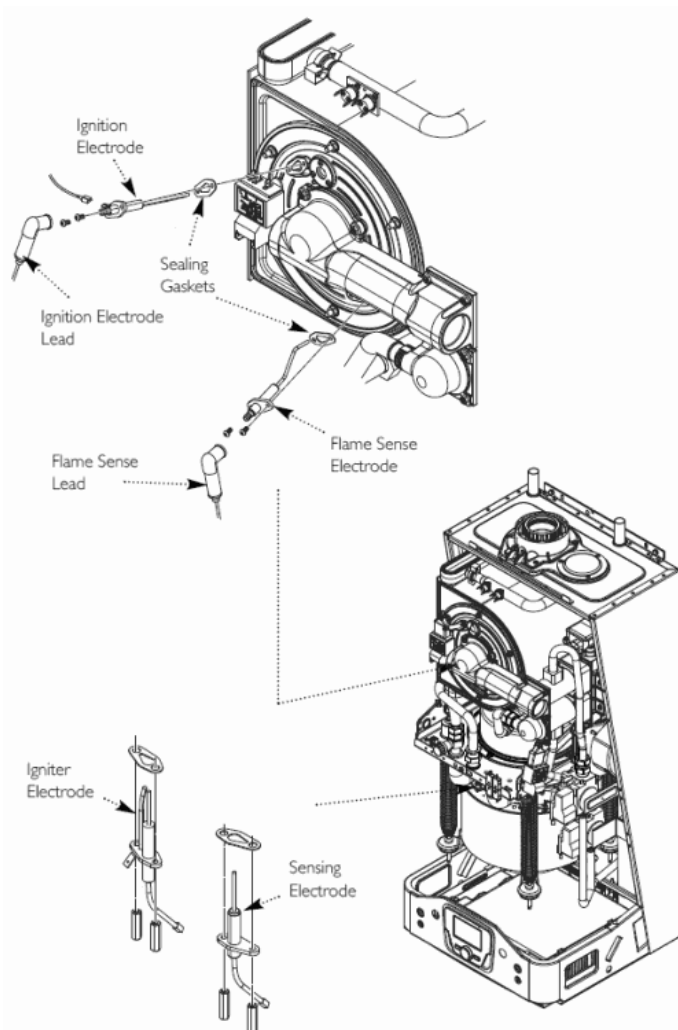

Fig. 57 & Fig. 58
14.2 Supplementary Igniter and Sensing Electrodes (Fig. 57)